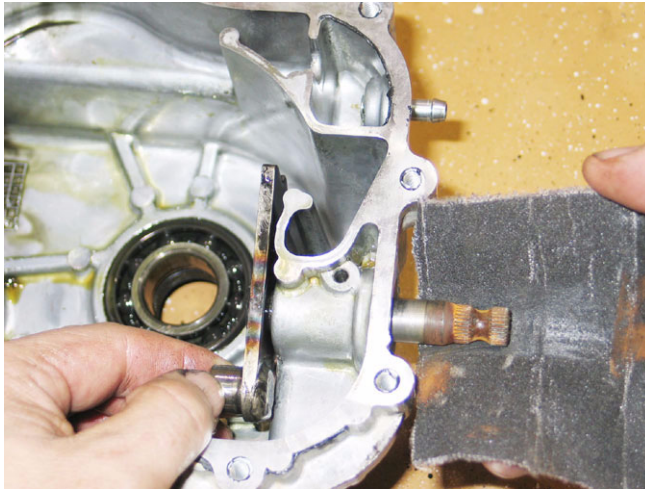

Figure 9.46
9.46. Like the input shaft, it will be necessary to clean any rust from the exterior part of the shift lever before it is removed. See Figure 9.46.